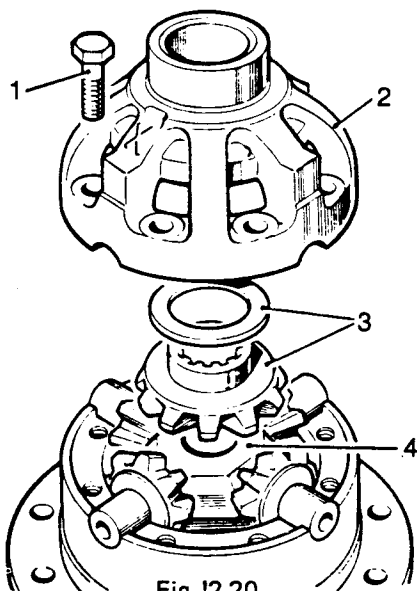

Fig J2.20
(3) Refer to Fig J2.20. Note the alignment markings on the two differential casings to ensure correct refitting, then remove the fixings (1).
(4) Lift off upper case (2).
(5) Withdraw the upper differential wheel and thrust washer (3).
(6) Lift out the cross shaft and pinions (4).